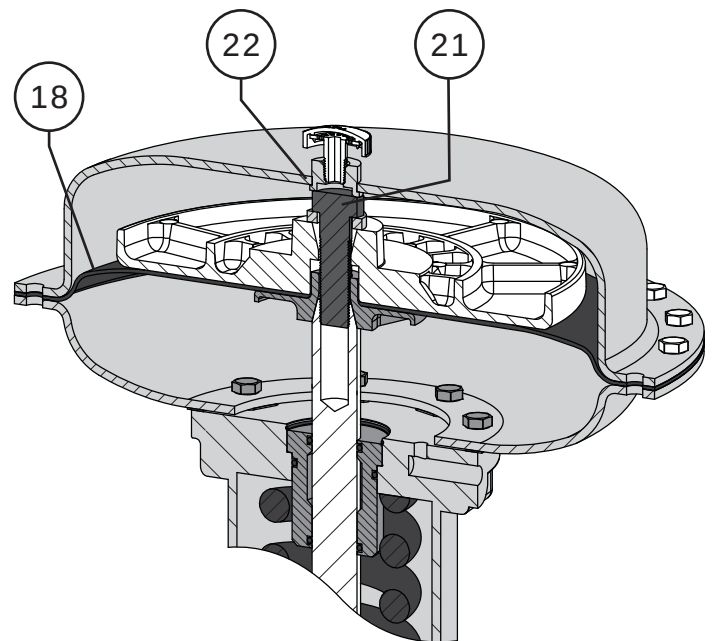

Figure 4 Correct Upper Bench Set Loading Pressure Position
- 6 Apply the upper bench set loading pressure plus 5 Psi (34 kPa). Make note of where the actuator stem (Key 13) travel stops. The actuator stem travel should stop when the cap screw head (Key 21) makes contact with the upper diaphragm casing (Key 22) or installed Up Travel Stop (refer to Figures 4, 29 & 30). **NOTE:** The cap screw head should make contact with upper diaphragm casing when the upper bench set loading pressure is reached (example: For a 10-30 Psig bench set, travel should stop at 30 Psig).